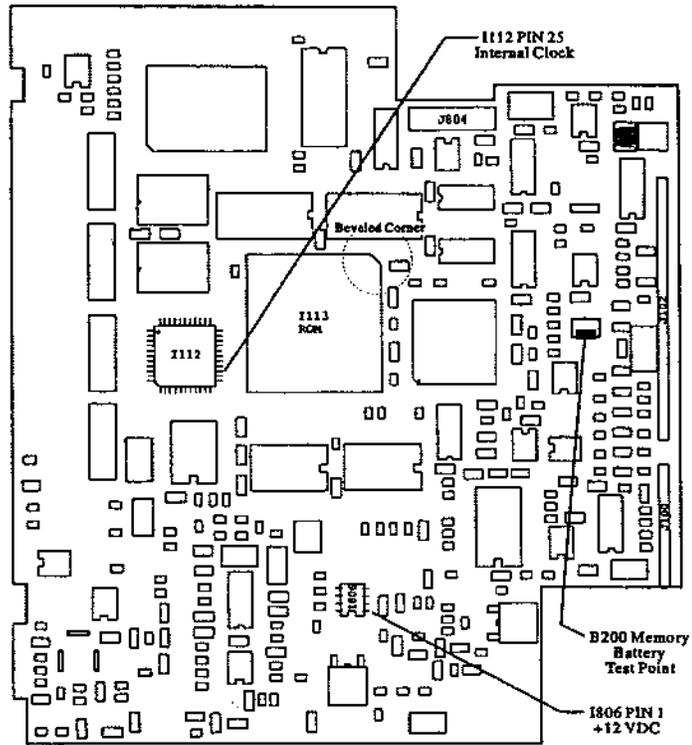

Figure 6. Main Board Testpoints (Bottom View)
4. Check the DC voltage between I806 pin 1, and ground as shown in Figure 6. The voltage should be between 11.75 and 12.25. If the voltage is outside of these limits, replace the Main Board.
Check the clock speed by placing an oscilloscope probe at I112 pin 25 as shown in Figure 6. The frequency should be approximately 16.4 MHz. If the clock is not operational, replace the RF/IF Board. If the clock still fails to function, replace the Main Board.